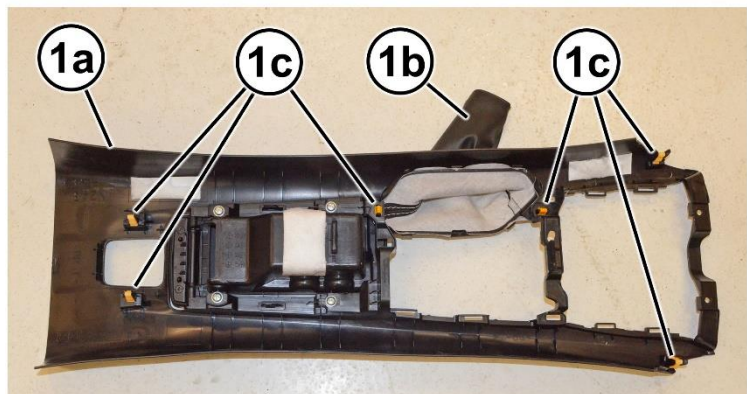

Figure 9 – Center Console Top Bezel
18. Lift at the rear of the center console top bezel (1a) to release the retainers (1c) (Figure 9).
19. Pull the center console top bezel (1a) slightly rearward to disengage the bezel from the instrument panel (Figure 9).
20. Raise the center console top bezel (1a) up while sliding the parking brake lever sleeve (1b) off the parking brake lever, then remove the bezel (1a) with sleeve (1b) from the vehicle (Figure 9).